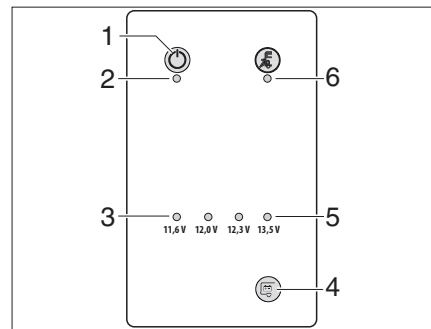

Fig. 64 Panel LT 104
The sensor touch pad (Fig. 64,4) enables the battery voltage of the living area battery to be displayed.
The indicator LEDs (Fig. 64,5) show the battery voltage.
- Red warning LED (Fig. 64,3) lights up:
The red warning LED (Fig. 64,3) flashes as soon as the voltage of the living area battery only still amounts to 11V (measured under operation) and there is a risk of a total discharge.
The 12 V main switch (Fig. 64,1) switches the panel and the 12 V power supply of the living area on and off.
- ▶ Touch the sensor touchpad (Fig. 64,1). The 12 V living area power supply is switched on. The 12 V indicator lamp (Fig. 64,2) lights up in green.
- ▶ Press the sensor touch pad (Fig. 64,1) again. The 12 V living area power supply is switched off. The 12 V indicator lamp (Fig. 64,2) goes off.
The 12 V indicator lamp (Fig. 64,5) illuminates whenever the 12 V main switch (Fig. 64,6) is switched on.
The yellow 230 V indicator lamp (Fig. 64,1) lights up whenever line voltage is available at the transformer/rectifier input.